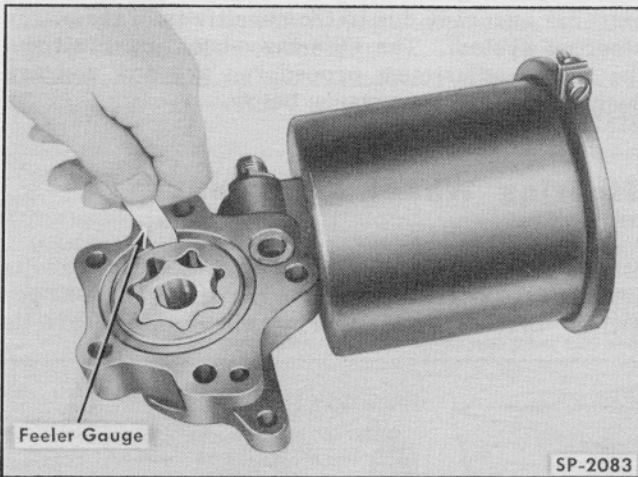

Fig. 17—Checking Clearance Between Rotor and Bushing
2. Using a feeler gauge, check clearance between outer rotor and bushing in pump body (Fig. 17). If clearance exceeds .006 inch, replace pump body.